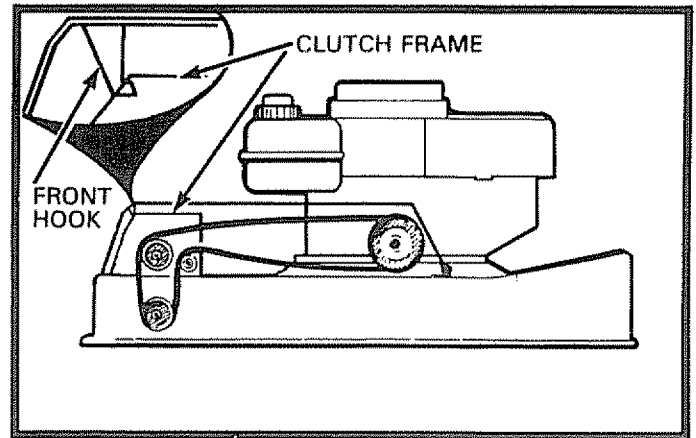

FIG. 14
- When reinstalling the belt cover be sure the front hook is under the clutch frame (See Fig. 14). Reinstall screw in rear of cover.
NOTE: For belt routing see Fig. 14.